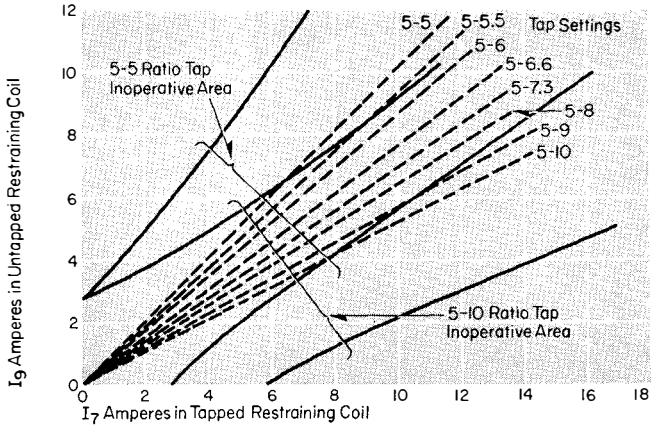

Figure 4
through fault current are shown in Figures 4 and 5. When the currents flowing into and out of the relay are plotted on these curves, if the point falls outside of the inoperative area, the relay will close its contacts.
In Figures 4 and 5 the two curves going with the 5-5 tap are tied together with a bracket to indicate that they go together. Similarly, the two curves for the 5-10 tap are also tied together. The center lines between pairs of curves are shown for all taps. The paired curves, bounding the inoperative areas, are not shown for all taps. These curves may be determined approximately by means of the following formulas:
As an example of the degree of accuracy of the formula consider the point $I_7=43.5$, and $I_9=30$; read from the lower curve for the 5-5 tap, Figure 4. Applying the formula, equation (2), the calculated value of I_7 is found to be 45 amperes, which is fairly close to the curve value $I_7=43.5$.